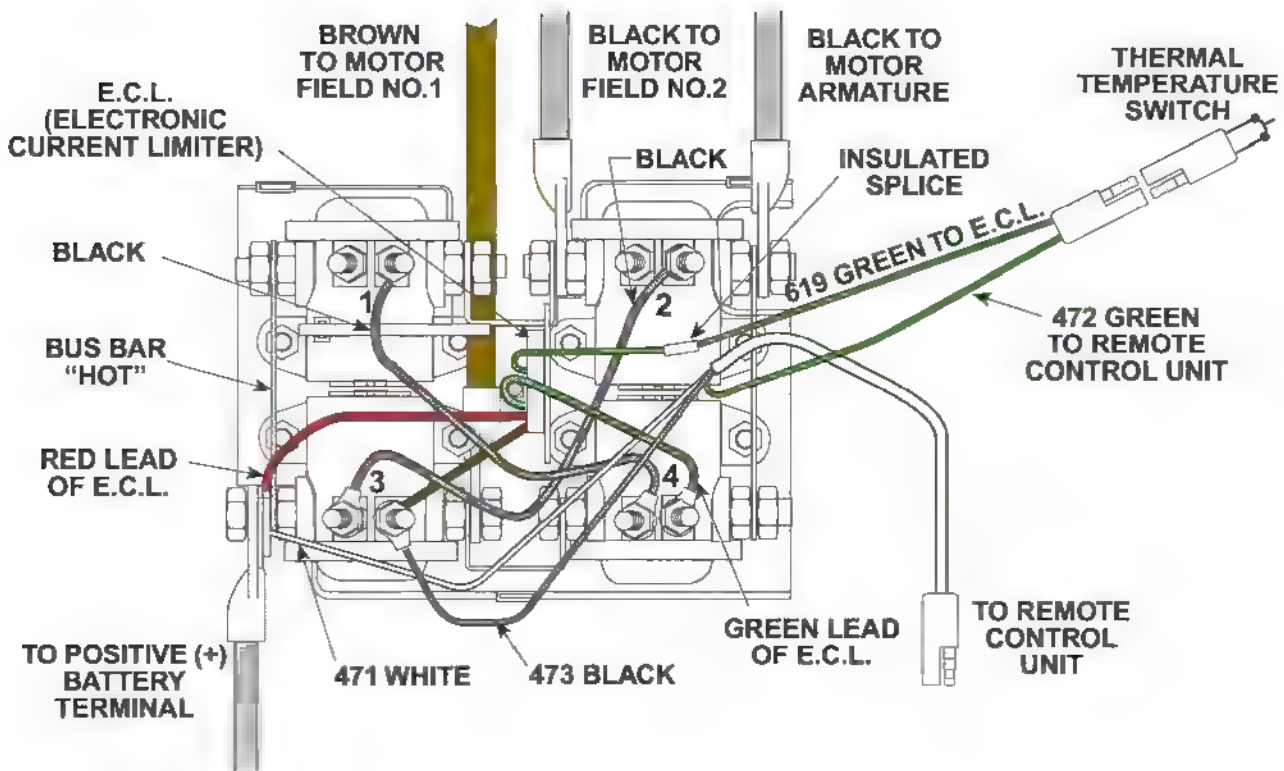

Figure 12-16 Repeat. Winch Testing.
1. If still no power-in, by-pass the ECL as follows: Cut the green, (#619) wire coming from the thermal switch to the ECL near the splice on the ECL side (Figure 12-16). Take the cut wire coming from the thermal switch and connect it to solenoid #4 on the same terminal that the green ECL wire is attached (Figure 12-16). The winch should operate in both directions. If not, continue with the troubleshooting steps.